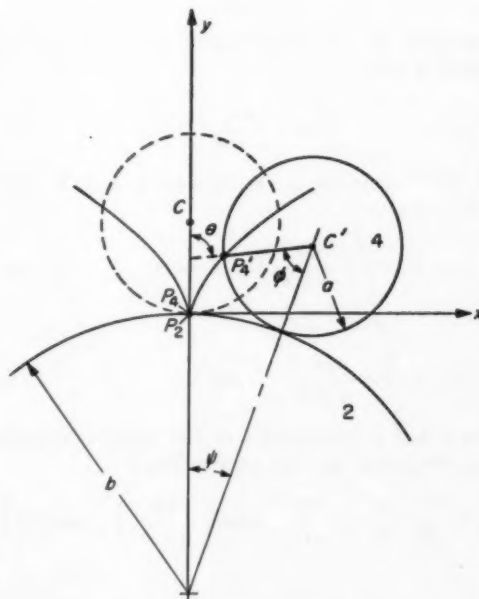

Fig. 2 — Circular member of radius  $a$  rolling on another circular member of radius  $b$
For homogeneous partitions that are adequately damped, measurements show that the empirical law represented in Fig. 2 is, as a first approximation, equally applicable to all nonporous materials. Attenuation is a simple function of weight per unit area of the partition material. Attenuation depends upon the frequency of incident sound, low frequencies being transmitted more readily than high frequencies at the rate of about 6 decibels per octave.
**Epicycloidal Acceleration:** The relative acceleration  $A_{P_4P_2}$  can be obtained by taking the second derivative of the parametric equations of the relative-motion path. The parametric equations for the epicycloid generated by the relative movement of points  $P_4$  and  $P_2$  in Fig. 2 are